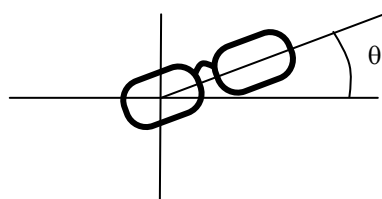

FIG. 14 Positioning eye glasses
- (ii) Left eyeglass are placed in front of LMS and luminance is measured, rotating right eyeglass such as FIG 14. The notation for luminance measurement is "Lum(LE, LB-RW, 1)".